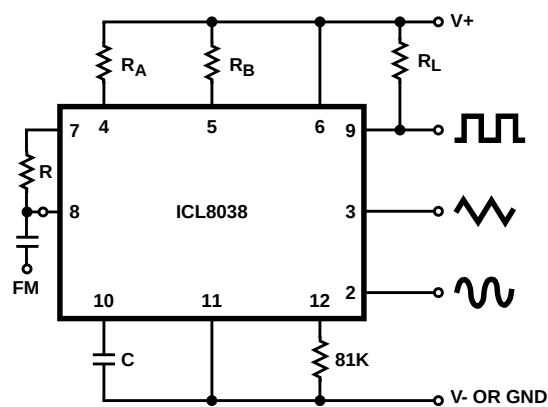

FIGURE 5A. CONNECTIONS FOR FREQUENCY MODULATION
- $V_{\text{SUPPLY}} = 20\text{V}$; R_A and $R_B = 10\text{k}\Omega$, $f \approx 10\text{kHz}$ nominal; can be extended 1000 to 1. See Figures 5A and 5B.
The frequency of the waveform generator is a direct function of the DC voltage at Terminal 8 (measured from $V+$). By altering this voltage, frequency modulation is performed. For small deviations (e.g. $\pm 10\%$) the modulating signal can be applied directly to pin 8, merely providing DC decoupling with a capacitor as shown in Figure 5A. An external resistor between pins 7 and 8 is not necessary, but it can be used to increase input impedance from about 8kΩ (pins 7 and 8 connected together), to about $(R + 8\text{k}\Omega)$.